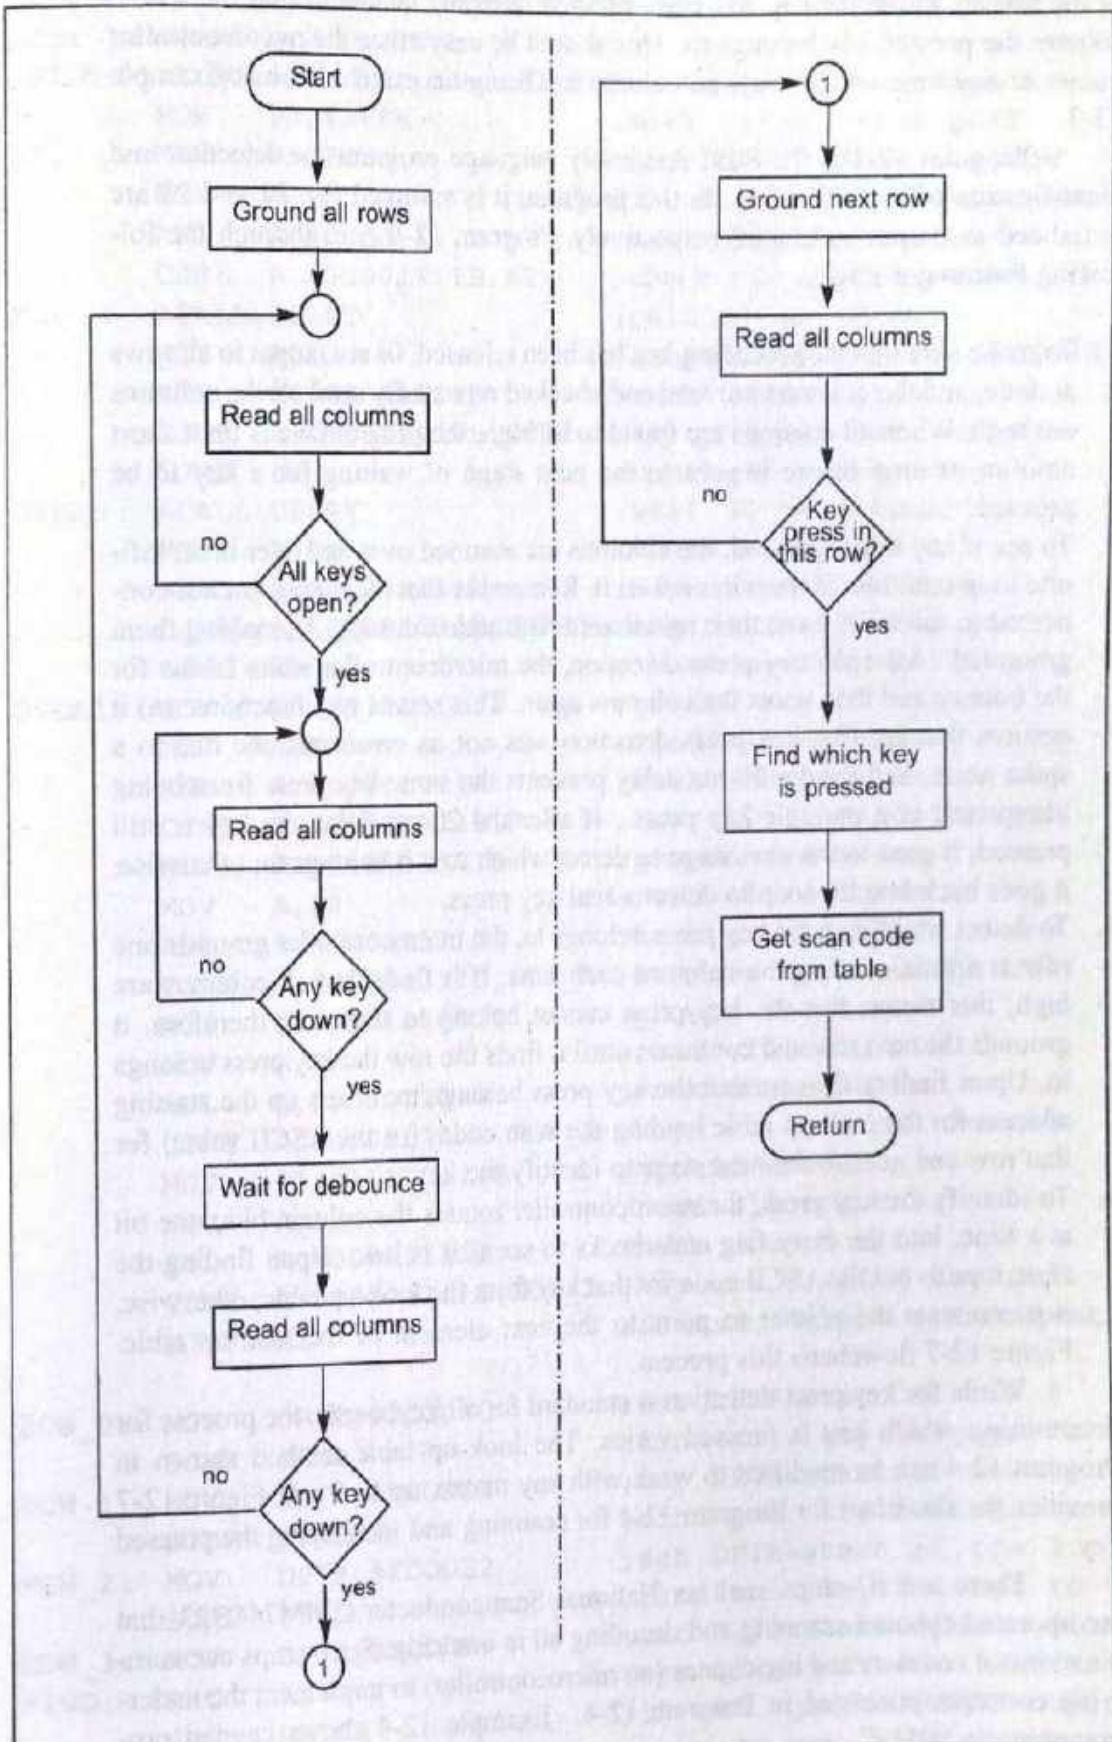

Figure 12-7. Flowchart for Program 12-4
4. To identify the key press, the microcontroller rotates the column bits, one bit at a time, into the carry flag and checks to see if it is low. Upon finding the zero, it pulls out the ASCII code for that key from the look-up table; otherwise, it increments the pointer to point to the next element of the look-up table. Figure 12-7 flowcharts this process.
While the key press detection is standard for all keyboards, the process for determining which key is pressed varies. The look-up table method shown in Program 12-4 can be modified to work with any matrix up to 8×8 . Figure 12-7 provides the flowchart for Program 12-4 for scanning and identifying the pressed key.